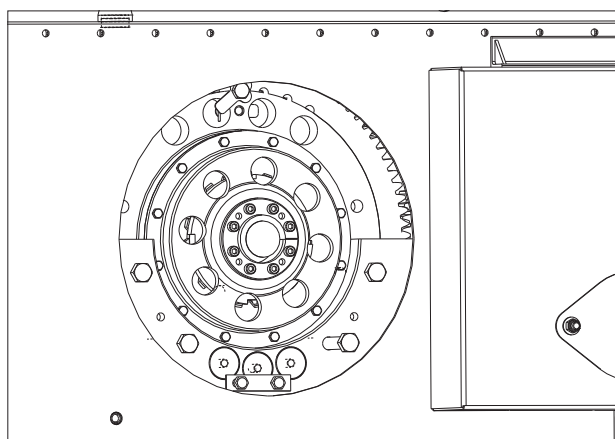

Figure 9.65 - Loosen Counterweight Bolts
5. Keep hands clear. Loosen counterweight bolts to allow weight disc to slide freely around gear, Ref: Figure 9.65.